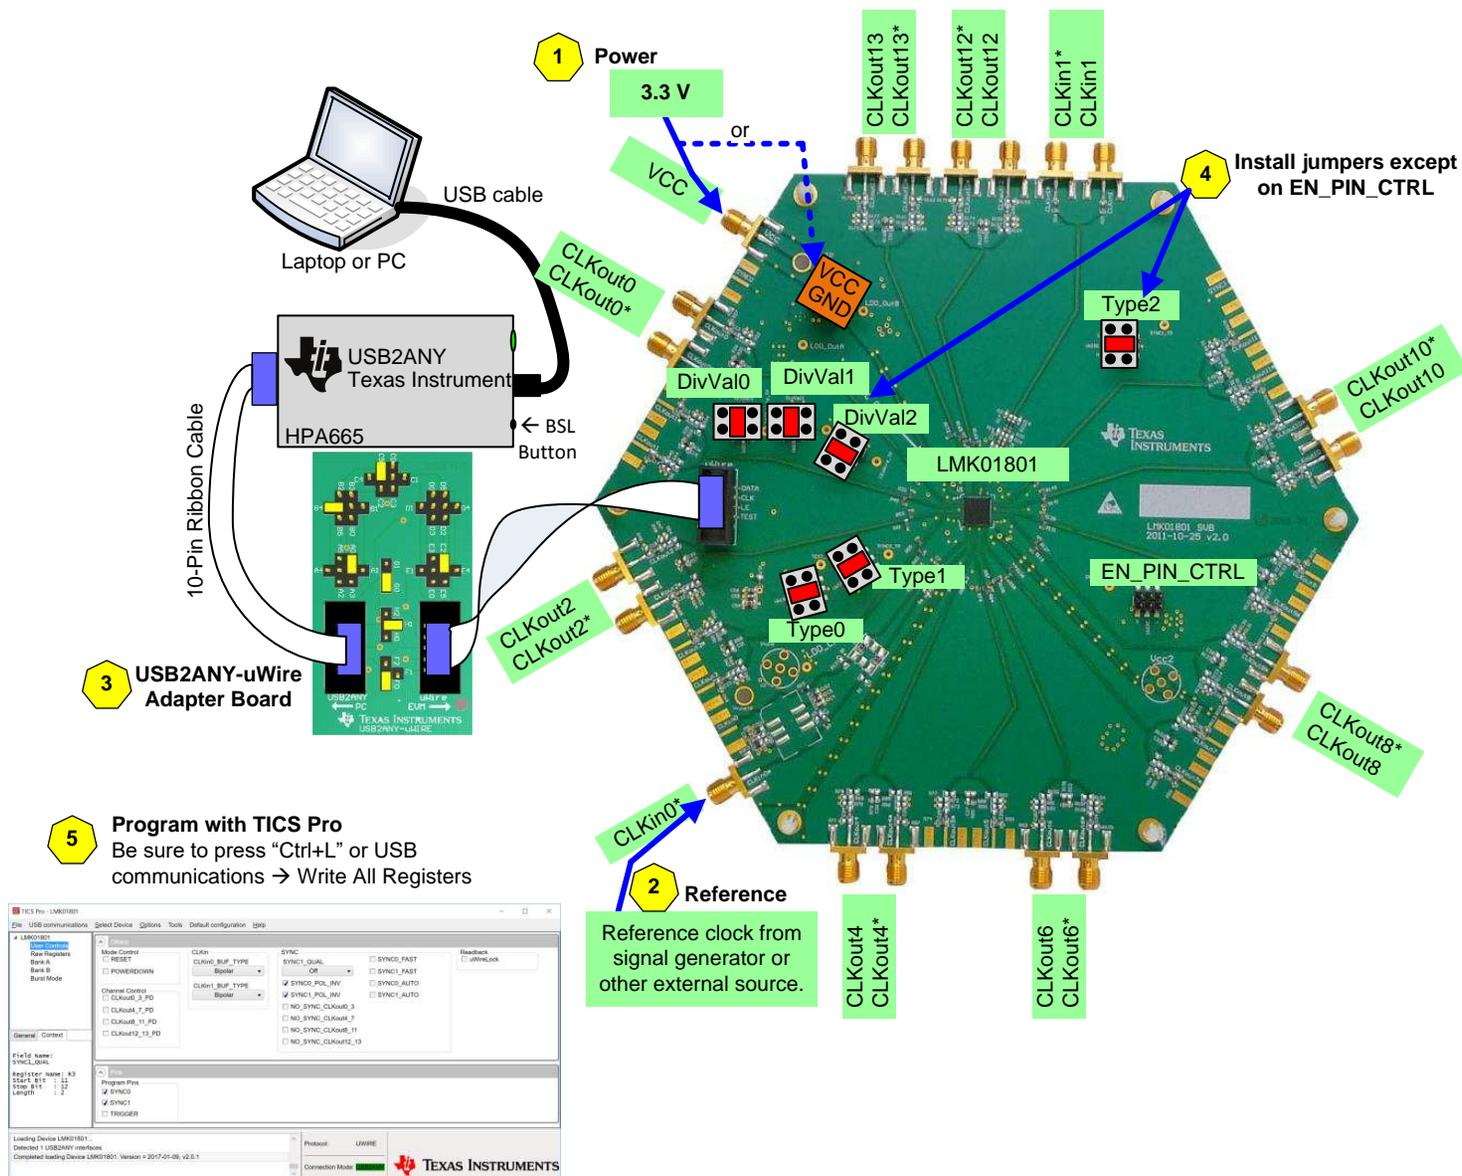

Figure 3. Quick Start - SPI Mode Diagram
3. Connect the PC to USB2ANY. Connect the USB2ANY-uWire Adapter Board from USB2ANY with a 10-pin ribbon cable. Install jumpers as shown in Figure 3 and connect another 10-pin ribbon cable to the uWire header on the EVM.